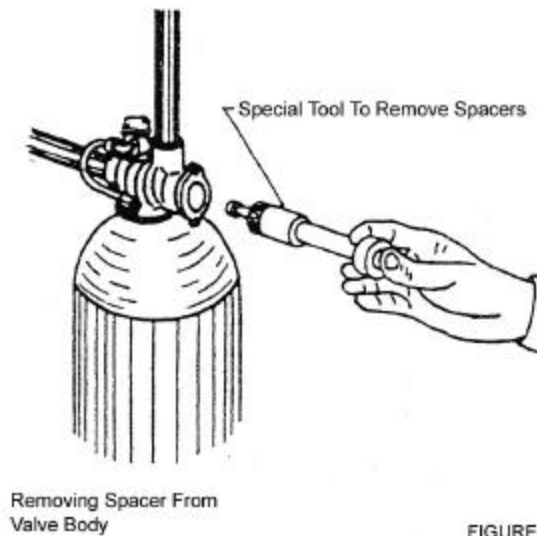

FIGURE 3
8. Insert the pin end of the spacer tool into the valve body with the pins retracted (button pulled back). Push the tool tight against the spacer and push the button in, (see Fig. 3). When the button is pushed in, the pins are pushed out to engage the ¼ dia. Holes in the spacer. Remove the tool from the valve body. The spacer will be on the end. Pull the center button back, the pins will be retracted and the spacer can be removed from the spacer tool.